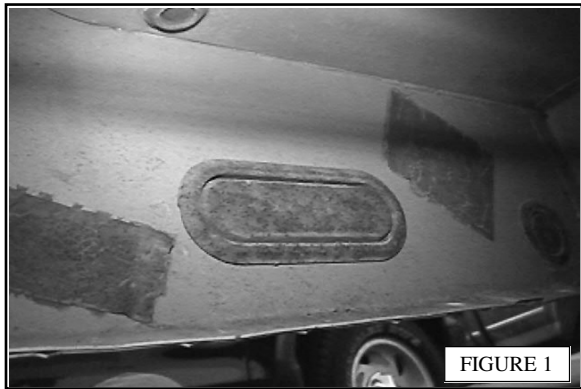

FIGURE 1
- STEP 2. Starting at the front driver side of the vehicle remove the factory inner rocker panel plugs from the vehicle. (FIGURE 1)